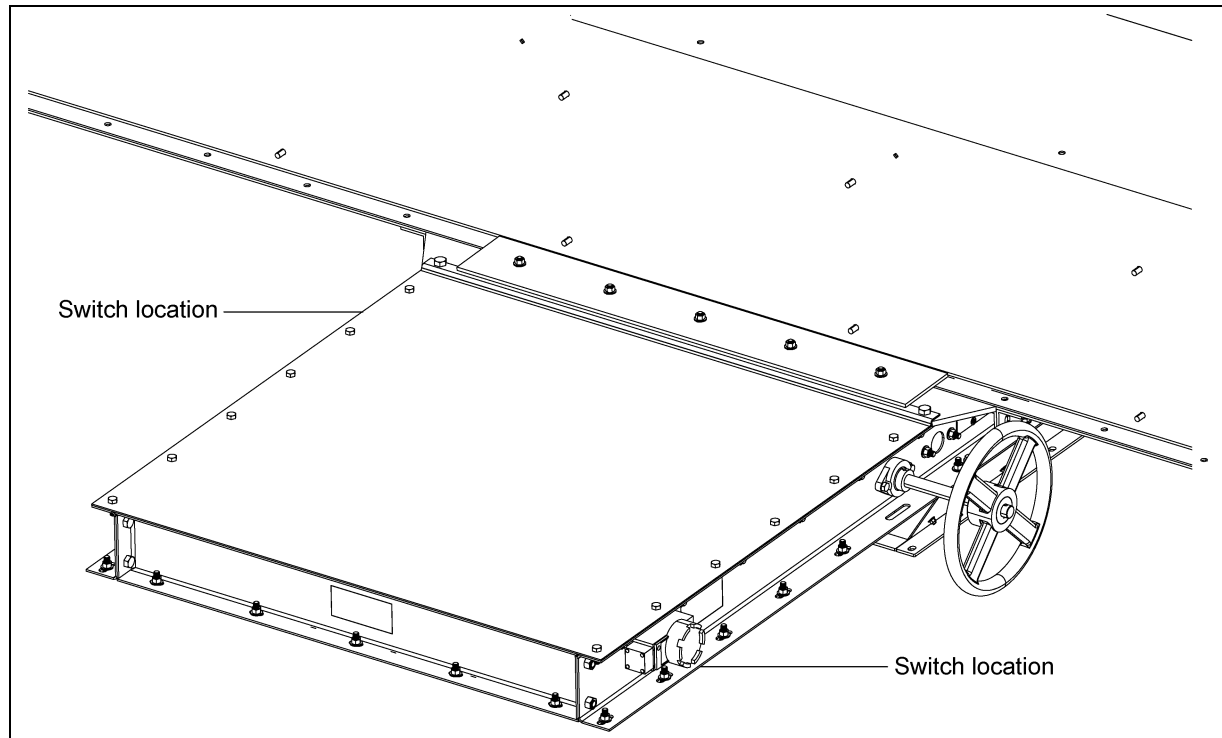

Figure 3E
1. Cross-cut switches are installed on opposite corners outside of gate frame. (See Figure 3E.)